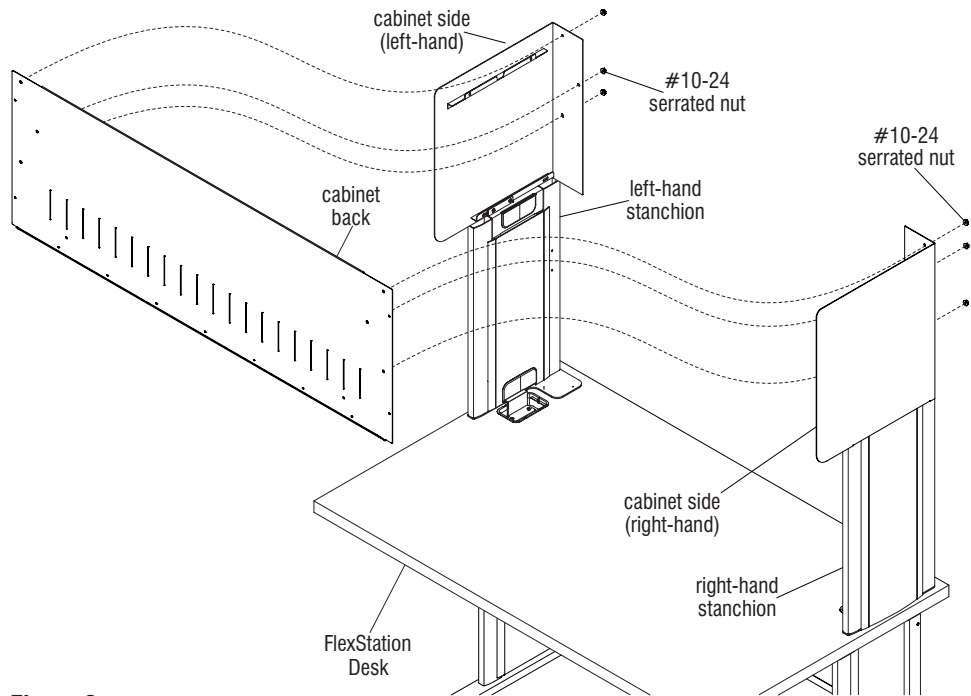

Figure 2
4. Position cabinet back as illustrated, with studs facing the rear. Orient the cabinet back into position, inserting the studs on the cabinet back through the mounting holes in rear flanges of both installed cabinet sides. Use six #10-24 serrated nuts to secure back to sides (Figure 2).